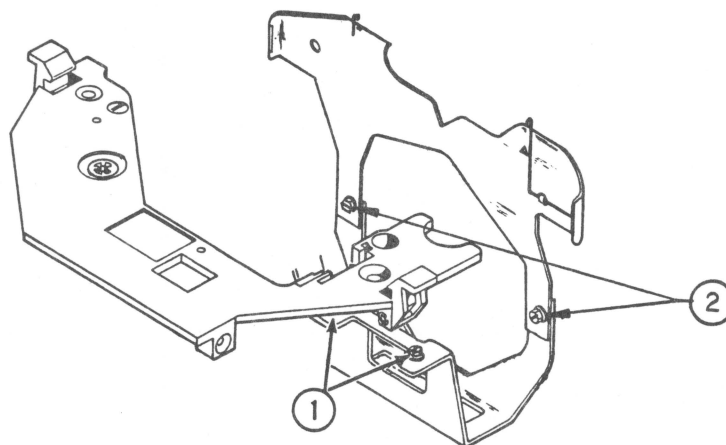

FIGURE 22
- \*3. Loosen the two depth control screws on the ribbon shield (see Figure 22, #1).
- \*3. If adjustment is necessary, tilt the hammer assembly away from the platen, loosen the up/down mounting screws (see Figure 22, #2) and adjust the shield to the criteria stated in step 2.